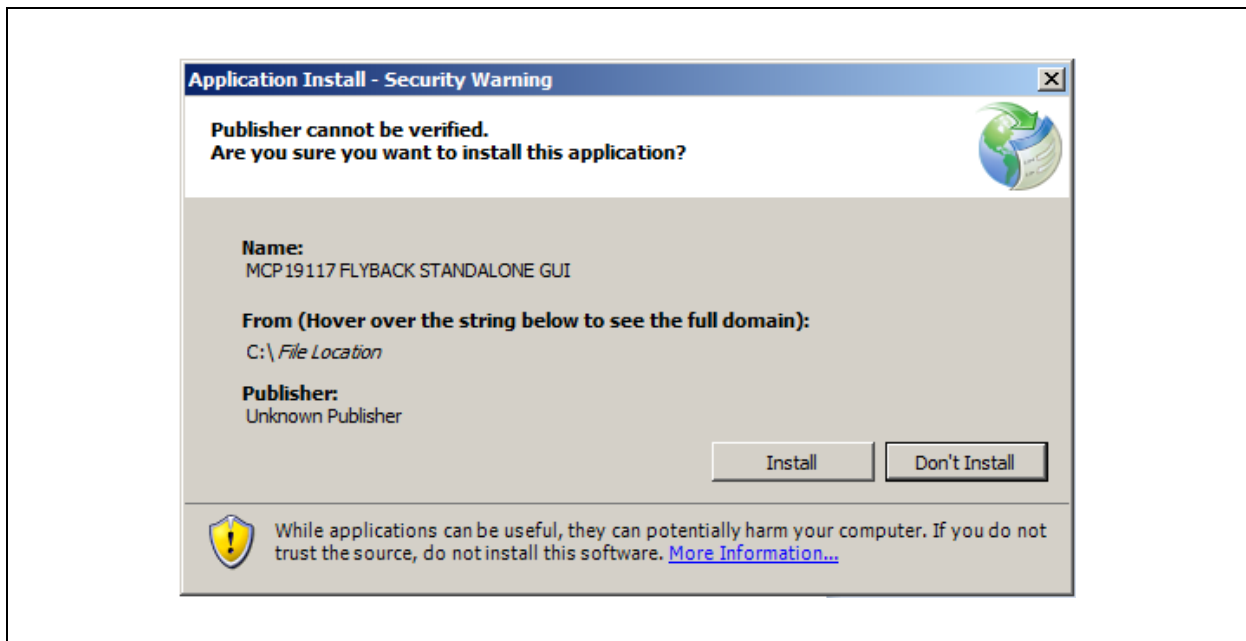
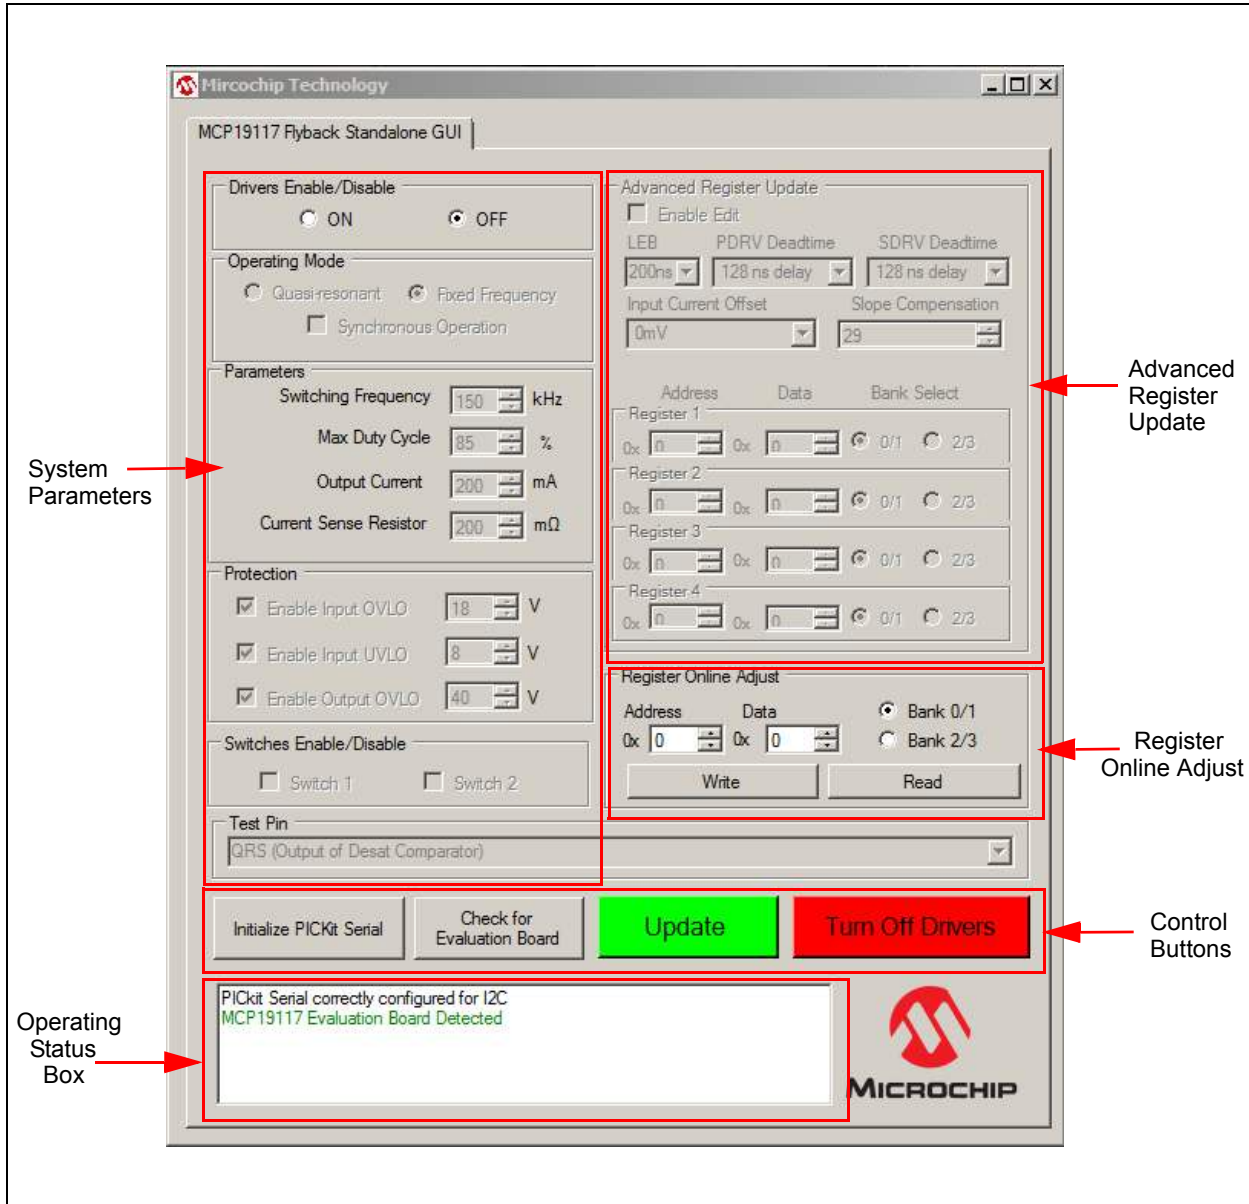

FIGURE 2-2: MCP19117 Flyback Standalone GUI Installation Window.
FIGURE 3-2: MCP19117 Flyback Standalone GUI - Initial Screen.
3. Double-click the `setup.exe` file to start software installation. Press the **Install** button in the Application Install window (Figure 2-2). After the installation completes, the application window is displayed (as shown in Figure 3-2 of Chapter 3. “Graphical User Interface (GUI) Features”).
The interface detects the MCP19117 device automatically and is ready for use (see Figure 3-2).
As depicted in Figure 3-2, the MCP19117 Flyback Standalone GUI is divided into five areas: